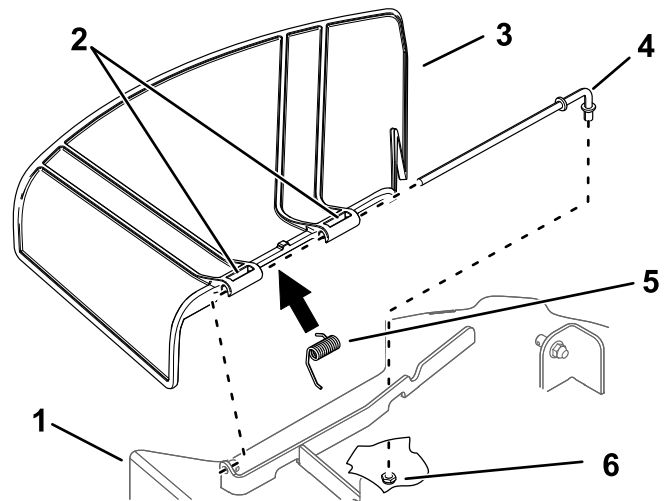

Figure 73
1. Remove the nut (3/8 inch) from the rod under the mower (Figure 73).
2. Slide the rod out of the short stand-off, spring, and grass deflector (Figure 73).
4. Install the new grass deflector (Figure 73).
7. Slide the rod through the second grass-deflector bracket (Figure 73).
9. Secure the rear end of the rod into the mower with a nut (3/8 inch) as shown in Figure 73.